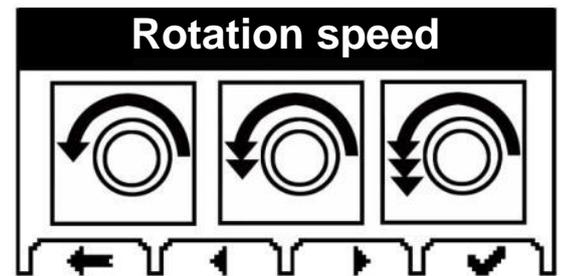

Fig. 5.10
- In **PRO** mode, it will move on to speed spin programming (Fig. 5.10).
- Select the spin speed (Fig. 5.10).